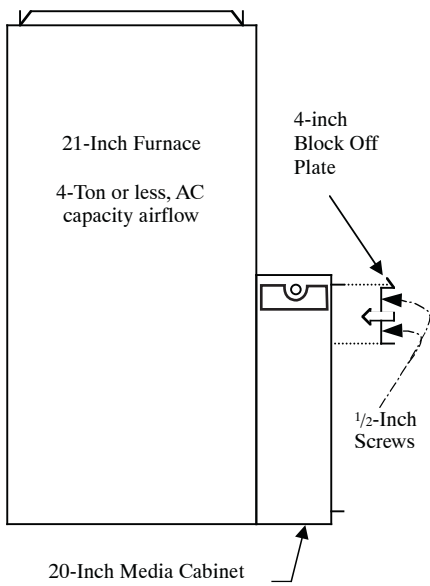

Fig. 19 - 20-in. MC Installation Option for 4-Ton or Less A/C Capacity
- a. When 4-tons or less AC capacity airflow is required, flush mount side return (Section 3) may be used. (See Fig. 19.)
- c. A 4-in. Block Off Plate is provided with 20-in. filter cabinets. This Block Off Plate may be used for 4-tons of AC airflow capacity or less. It is used to adapt the duct connection side of the filter cabinet (See Fig. 19) to a 16-in. return boot.